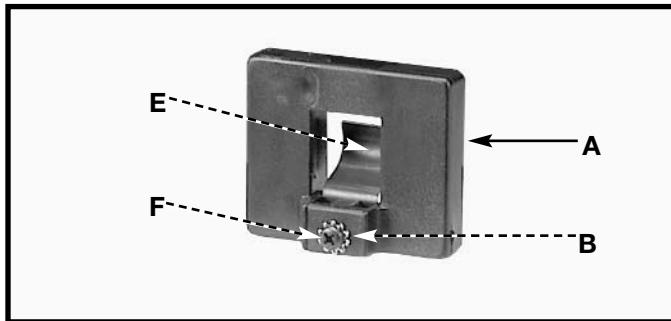
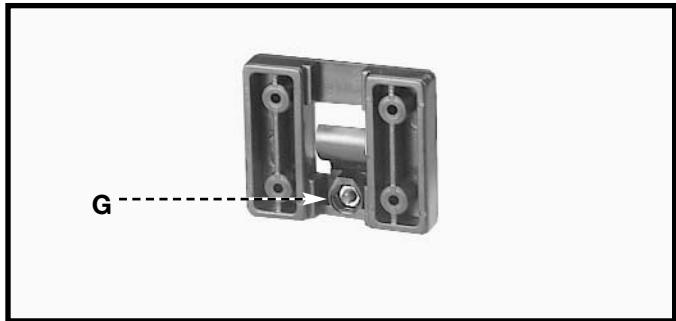

Fig. 5
Fig. 6
1. Attach the spring clip (E) Fig. 5 to the miter gauge holder (A) using an M4x.7x10mm pan head screw (F), 3/16 inch external tooth lockwasher, (B) and M4x.7 hex nut.
- NOTE: The hex nut (G) Fig. 6 will fit into the recess at the back of the miter gauge holder (A) Fig. 5 to keep the spring clip (E) secured to the miter gauge holder.